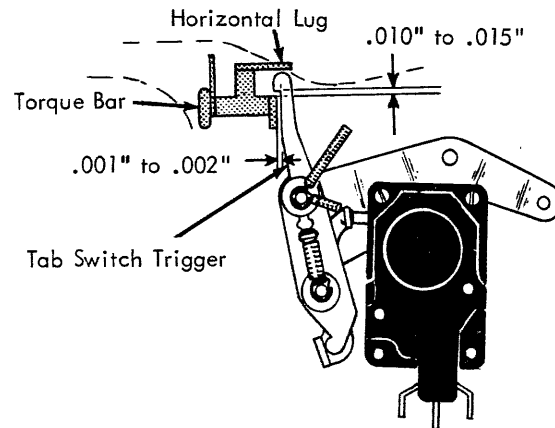

FIGURE 173. Tab Interlock Switch (Late)
NOTE: On machines with the new style (Fig. 173) interlock contact form the upstop up out of the way.
13. Tab Interlock Switch (Late) (Fig. 173) -
- Tab Switch Trigger - with the tab torque bar in the rest position, form the horizontal lug on the left end of the tab torque bar, so that .010\" to .015\" exists between the tab switch trigger and its latching surface (Fig. 173).
- Front to Rear - so a .001\" to .002\" clearance (Fig. 173) exists between the tab switch trigger and the rear edge of the tab torque bar extension. This clearance insures that the tab interlock switch is not partially activated in the rest position.